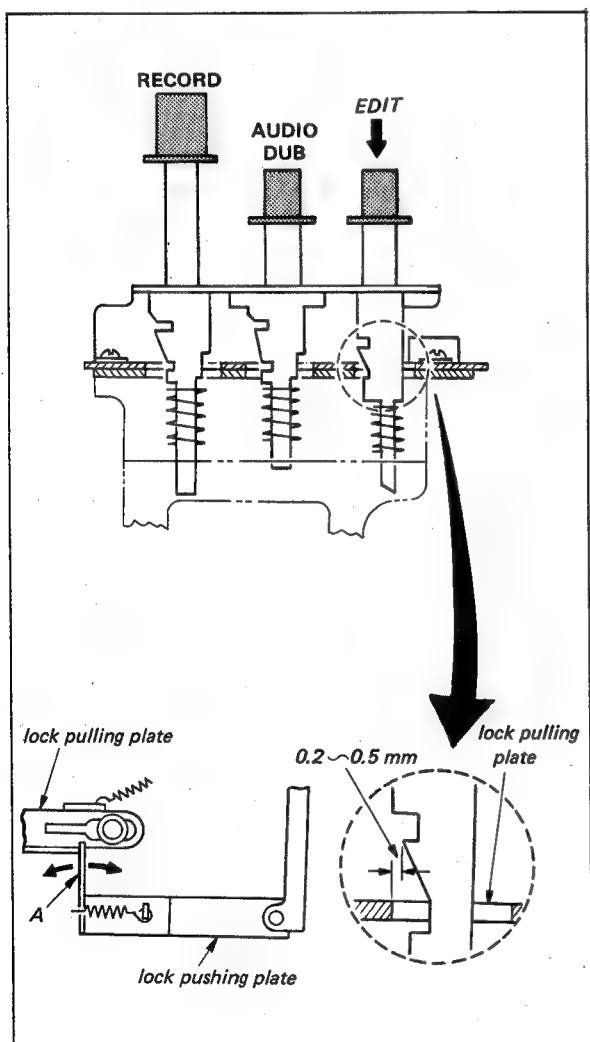

Fig. 4-25.
2. If the latch does not operate correctly, proceed as follows. In the STOP mode, make sure that the Edit button is clear of the Set Lock Bar. Clearance should be between 0.1 mm and 0.3 mm. Refer to Fig. 4-25. Bend Section A with a pair of pliers as needed to obtain the correct spacing.